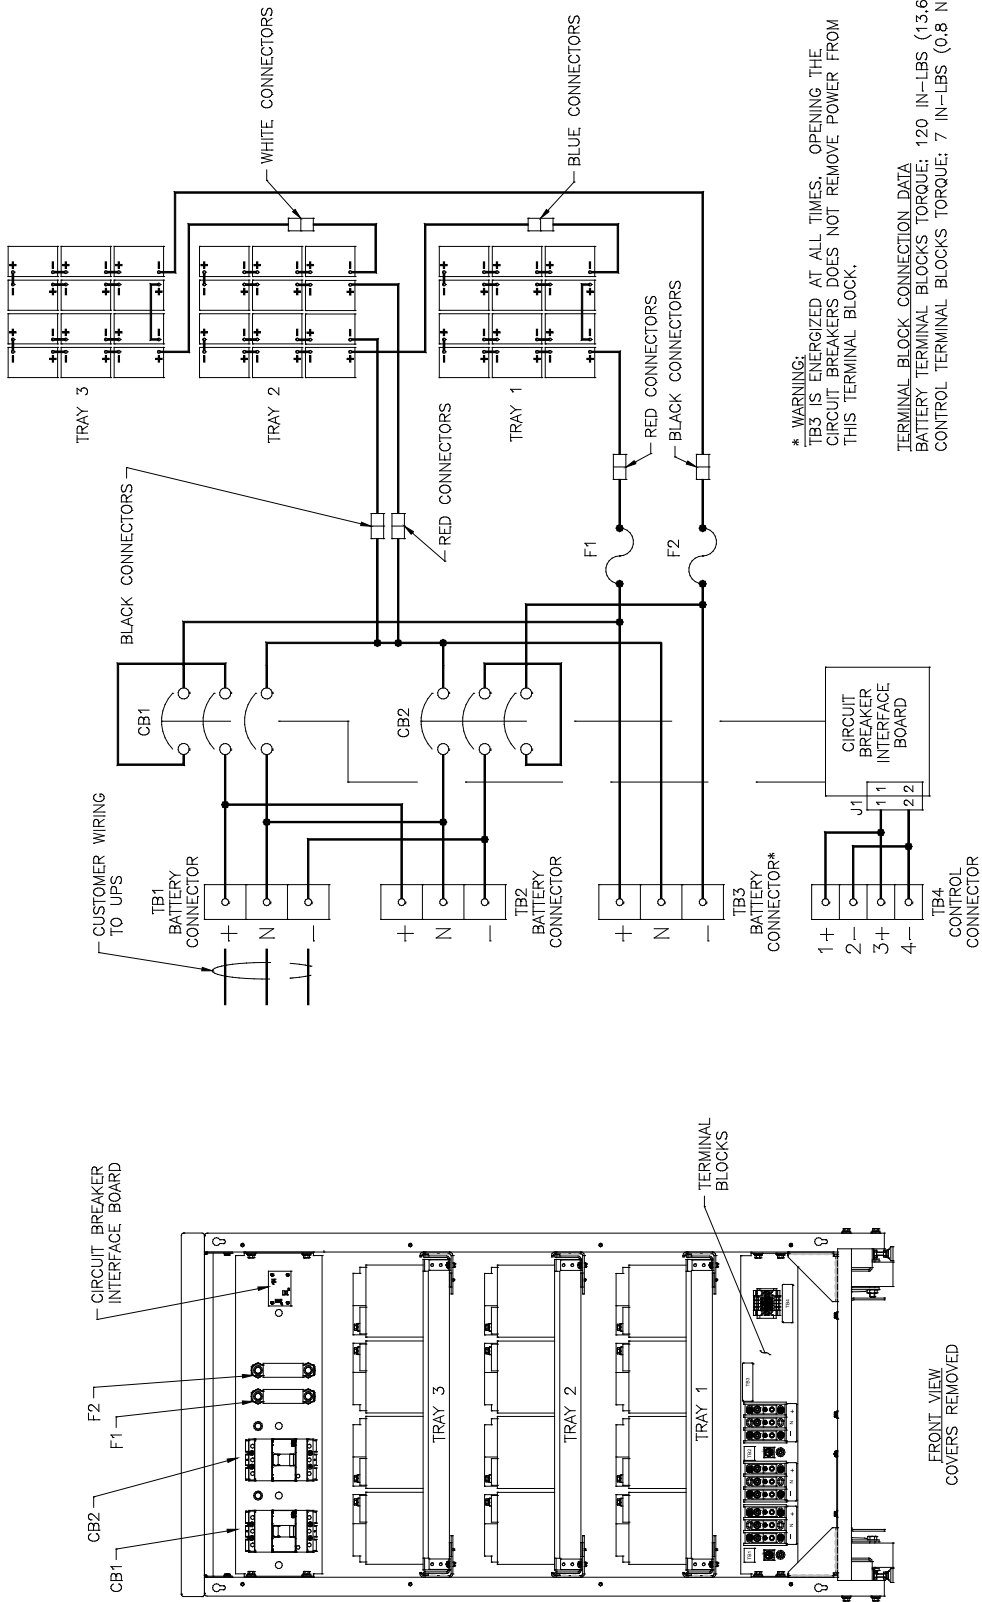

Figure 13 – Cabinet Schematic
7. Mate the blue connections, blue to blue, and then the white connections, white to white. See **Figure 13**. Repeat this procedure for the other battery cabinets, if present.
Before any battery service is attempted, the batteries must be disconnected by unplugging the cables to the battery trays. If it is necessary to remove the cables from the batteries, the connections should be marked in a way that no confusion will exist when it is time to reconnect the cables (see **Figure 13**). The batteries are mounted in slide out trays that permit access to the battery to battery connections when the trays are withdrawn from the cabinet.